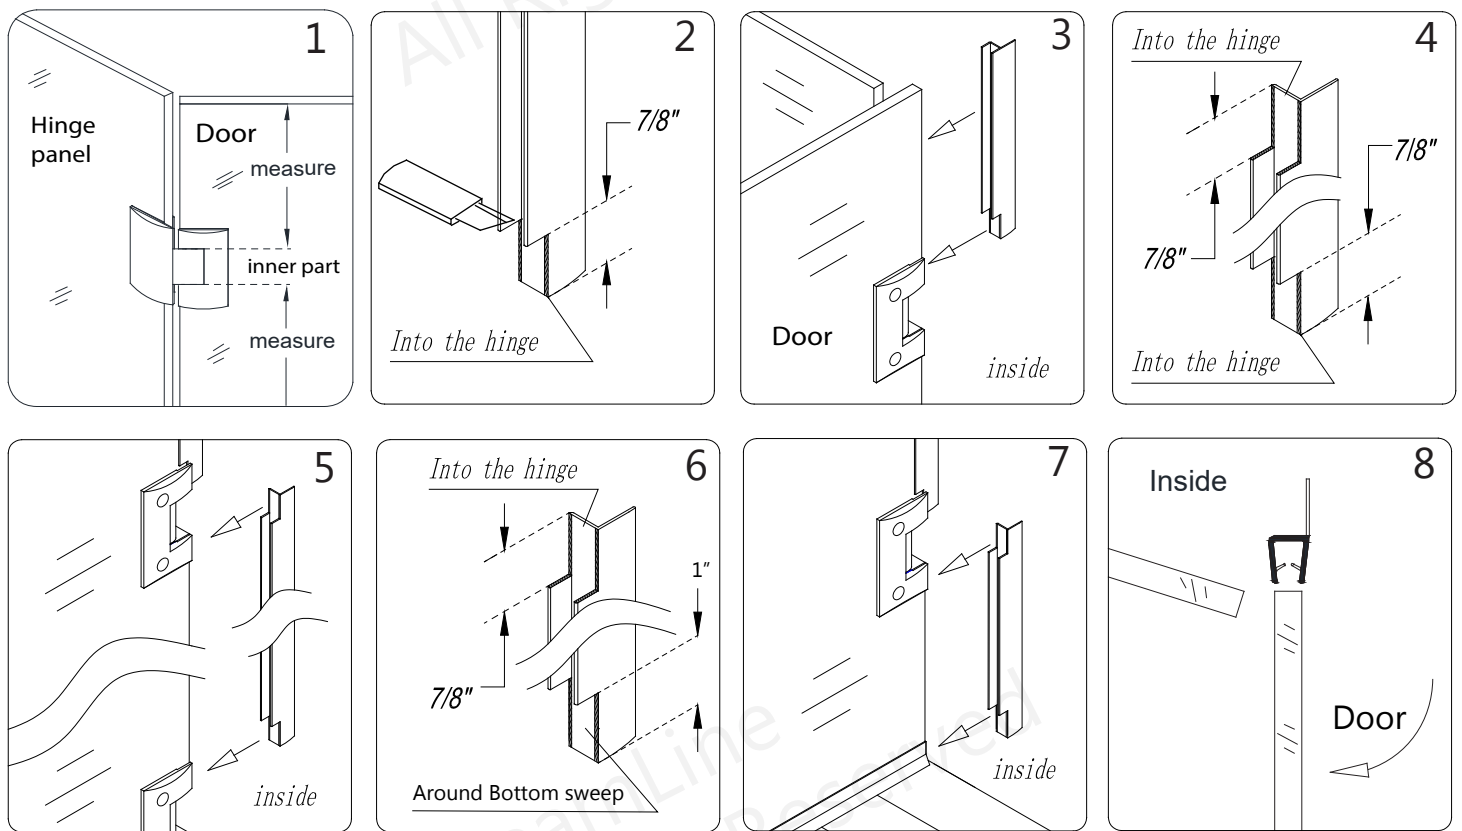

Fig 21
- Measure up from the surface of the shower base to the bottom of the inner part of the bottom hinge. Cut the **Hinge-Side Vinyl (#15)** according to these measurements. Notch the ends to fit into the hinges and also around the **Sweep Vinyl (#08)**. Fully press the cut strips onto the vertical edge of the **Door Glass (#06)**. (**Fig 21**)